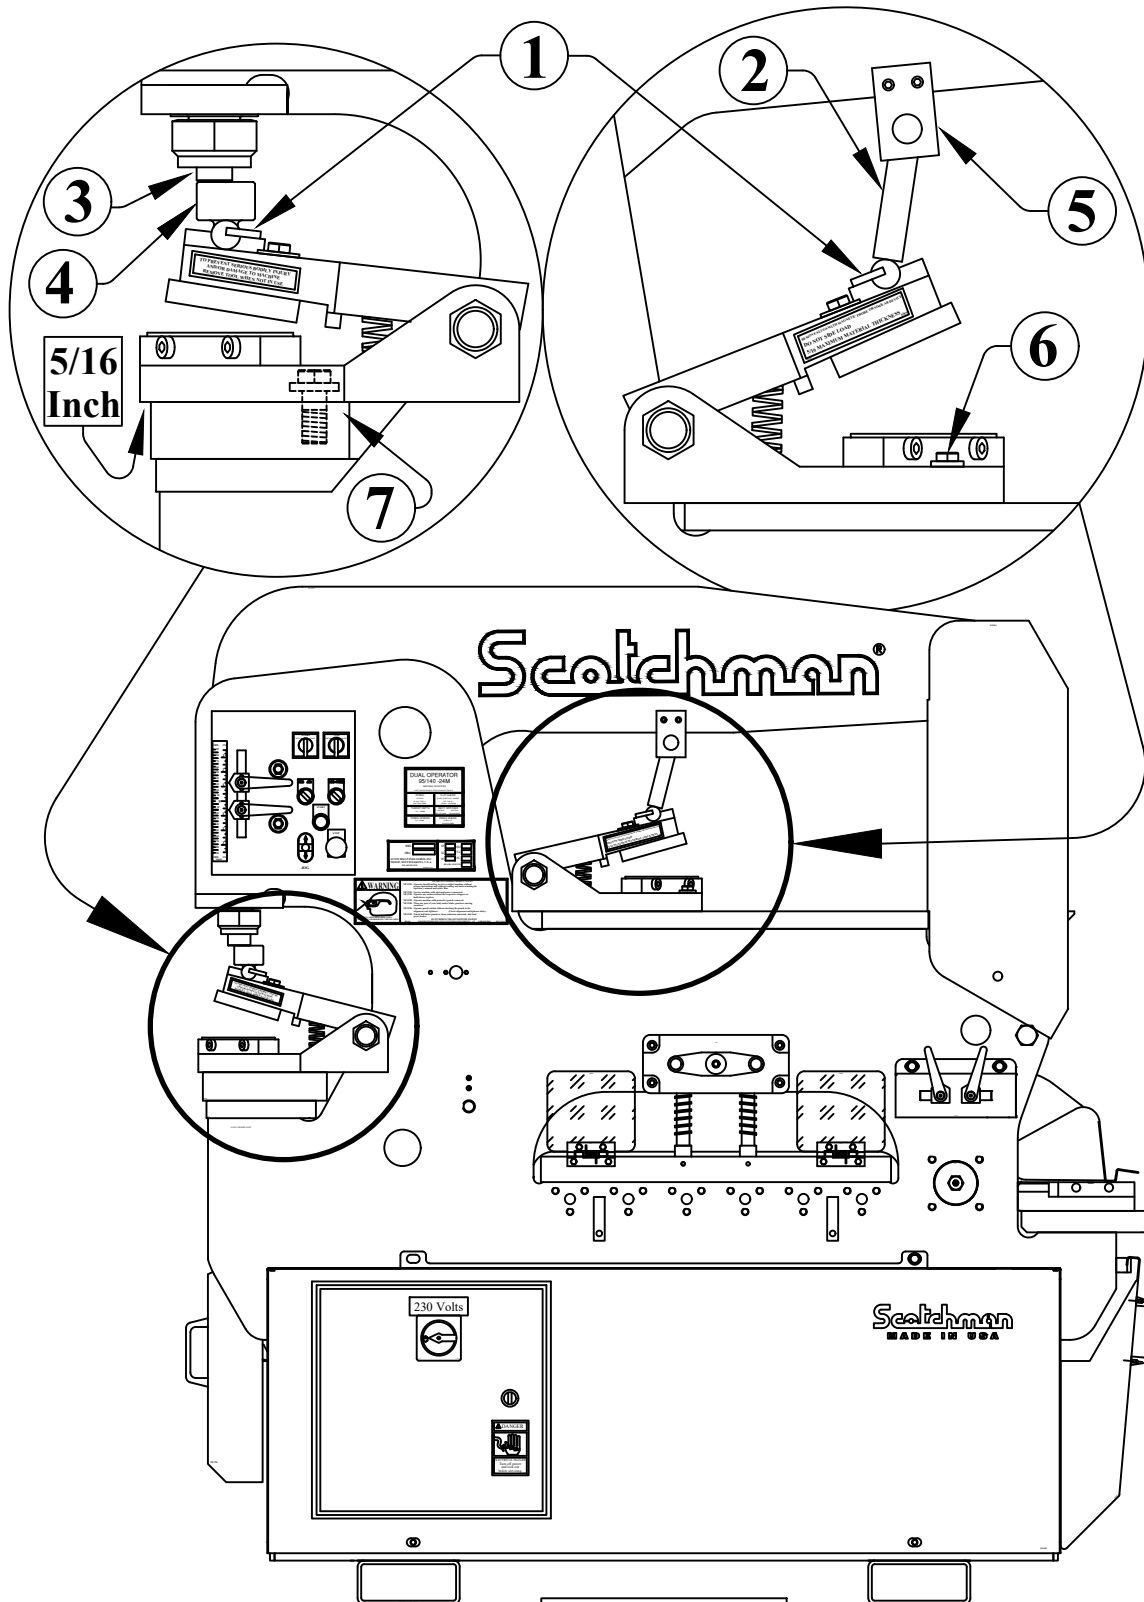

FIGURE 21
SEE FIGURE 21 ON THE FOLLOWNG PAGE
To install the notcher under the upper arm, the tool should be mounted as close to the frame as possible and anchored with the bolts (6) provided. The pusher (2) and beam block (5) should be installed as shown in FIGURE 21.
To mount the notcher in the punch station, first remove the punch, die, die holder and stripper. Mount the short punch pusher (3) with the jam nut. Mount the notcher to the punch table with the front of the notcher extending past the front of the punch table about a 5/16 inch. SEE FIGURE 21. Secure the notcher to the punch table with the heavy washer and bolt (7) provided. Punch pusher (3) and notcher pusher (4) should align as shown with the punch pusher toward the front of the notcher pusher. After the notcher is mounted, install the neoprene slug pad.